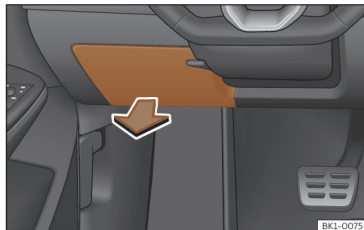

Fig. 185 On the dashboard on the driver side: lid of the fuse box.
- Grasp the back of the cover and remove it in the direction of the arrow >>> **Fig. 185**.